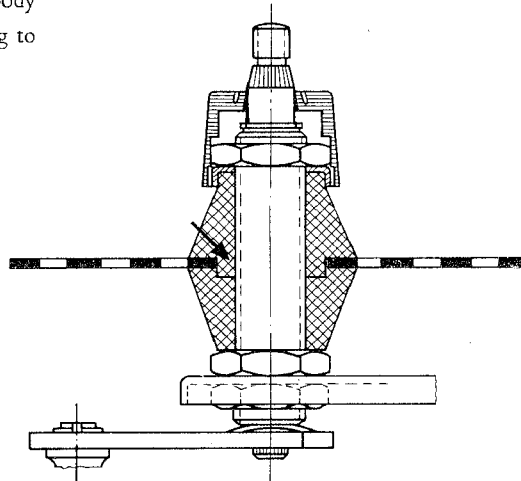

Fig. 3
4. In order to properly seal the holes in the body panelling, mount the rubber caps according to Fig. 3.